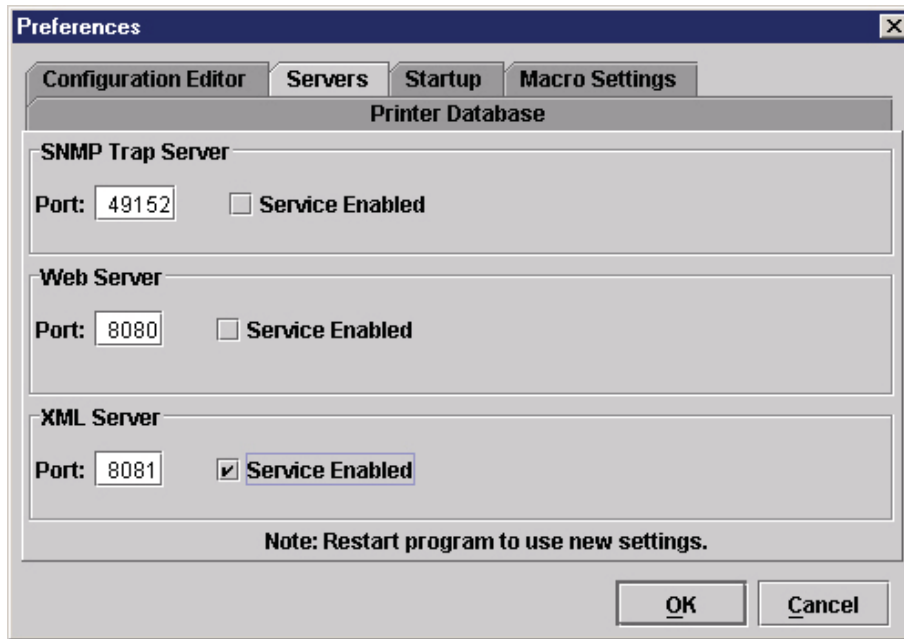

Figure 261 Enabling the XML Server Port
4. Make sure the **Service Enabled** check box is checked under **XML Server**. See Figure 261.